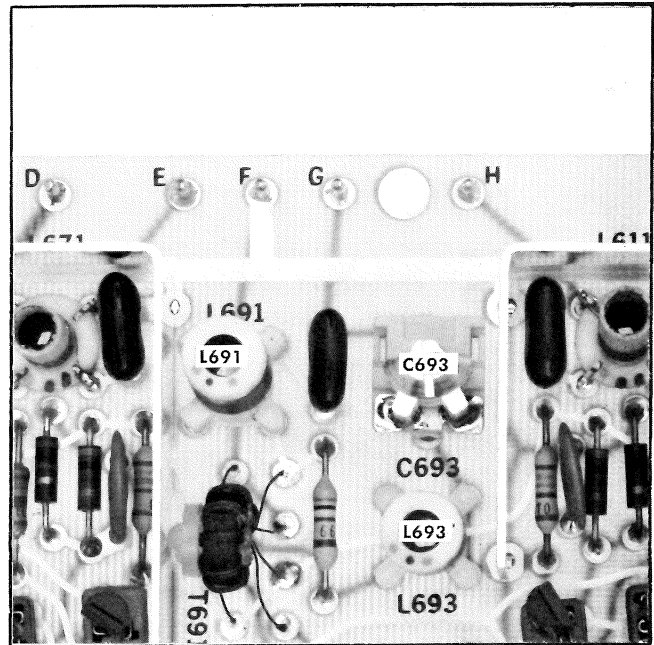

Fig. 5-45. U and V Modulator board adjustment location.
- h. ADJUST—4.43 MHz Bandpass Filter adjustments, C693, L691, and L693, (see Fig. 5-45) for best overlay of the displays as shown in Fig. 5-44B.
o. ADJUST—4.43 MHz Bandpass Filter, C693, L691 and L693, (see Fig. 5-45) for best transition from green to magenta as shown in Fig. 5-46A.
u. ADJUST—4.43 MHz Bandpass Filter, C693, L691, and L693, (see Fig. 5-45) until no amplitude change of the colour bars occurs as the Type R141A V AXIS PHASING switch is moved through the different positions.